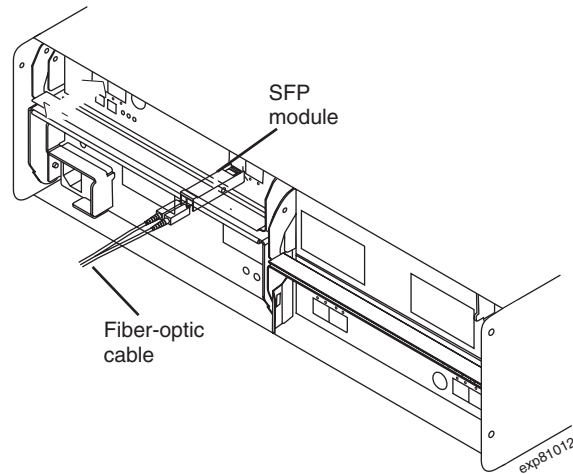

Figure 26. Installing an SFP module and connecting an LC-LC cable to the EXP5000
3. Install an SFP module in the SFP port on the back of the EXP5000; then, connect the other end of the LC-LC cable into the SFP module, as shown in Figure 26 on page 43.